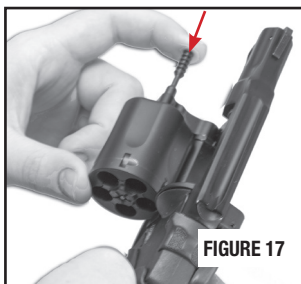

FIGURE 17
- With the barrel pointing upward in a safe direction, press the extractor rod down and remove all cartridges or casings from the cylinder (FIGURE 17).